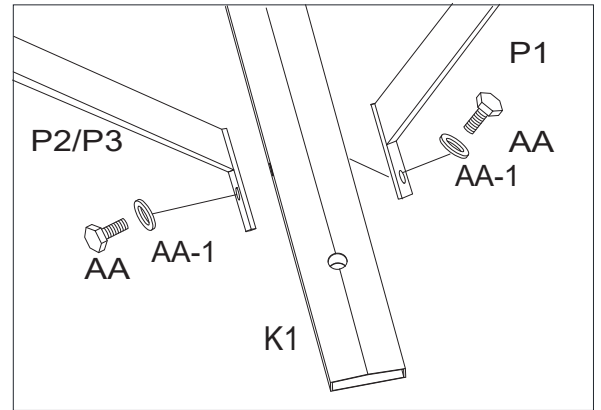
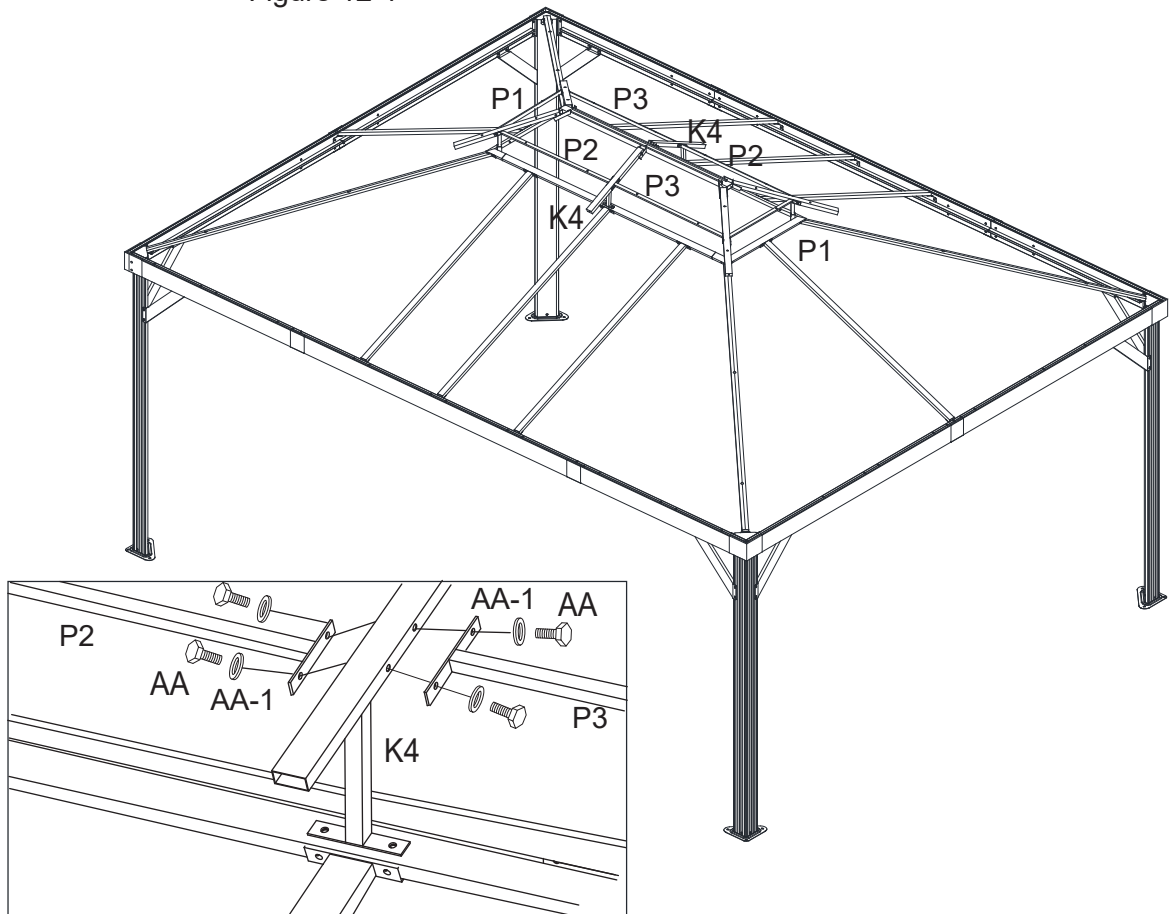

Figure 12-2
Figure 12-3
12.2 Attach the sides of the Roof Vent Frame by connecting the Short Side (P1) and Left / Right Side (P2/P3) to the Roof Vent Corner Support (K1) and the Small Top Center Bar (K4) using Bolts (AA/AA-1). Tighten all Bolts. See Figure 12-2 to Figure 12-3 .